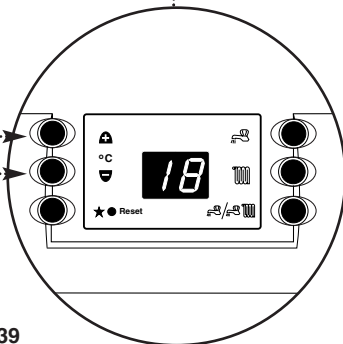

Fig. 39
5. To switch the pre-heat feature back on depress the “+” and “-” Temperature Control Buttons at the same time for 5 seconds. The display will show “18 or 10” (Fig. 39).
3. To switch the system frost protection on: depress the “+” and “-” Temperature Control Buttons at the same time for 5 seconds. The display will show “18 or 10” (Fig. 39).
5. To switch the system frost protection off depress the “+” and “-” Temperature Control Buttons at the same time for 5 seconds. The display will show “18 or 10” (Fig. 39).